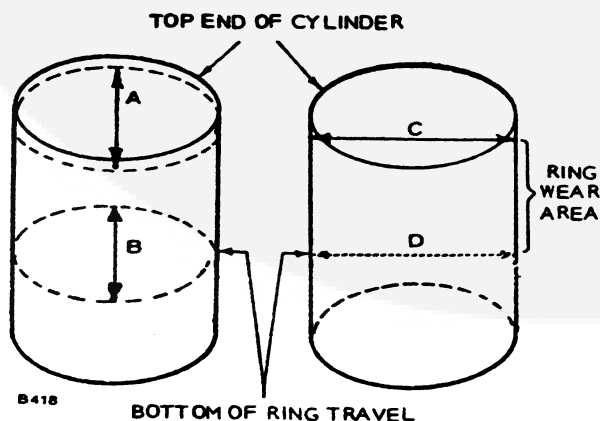

FIGURE 69. METHODS OF CYLINDER BORE INSPECTION
3. Check the cylinder bore for taper, out of round and wear with a cylinder bore gauge, telescope gauge or inside micrometer, Figure 69. These measurements should be taken at four places — two at the top and two at the bottom of piston ring travel.